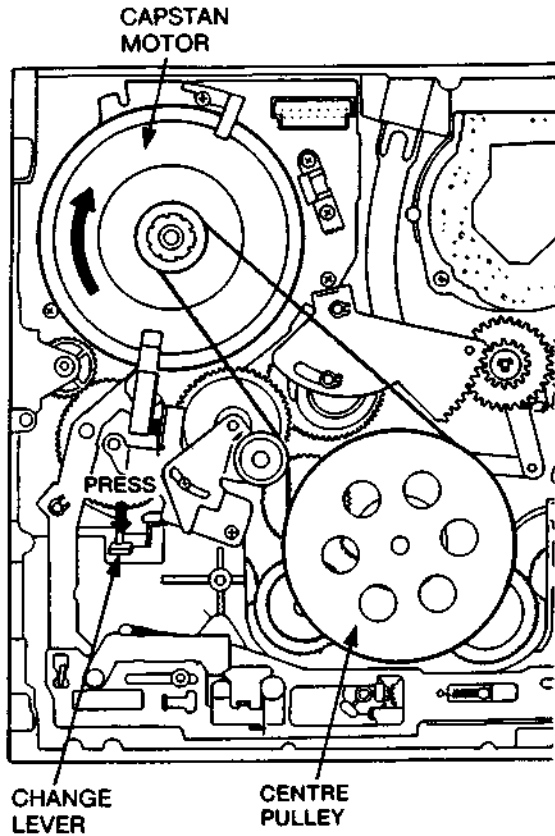

Fig. 2-2
- Turn the capstan motor clockwise while pushing change lever pos. no. 122(2) until loading is completed as shown in Fig. 2-2.